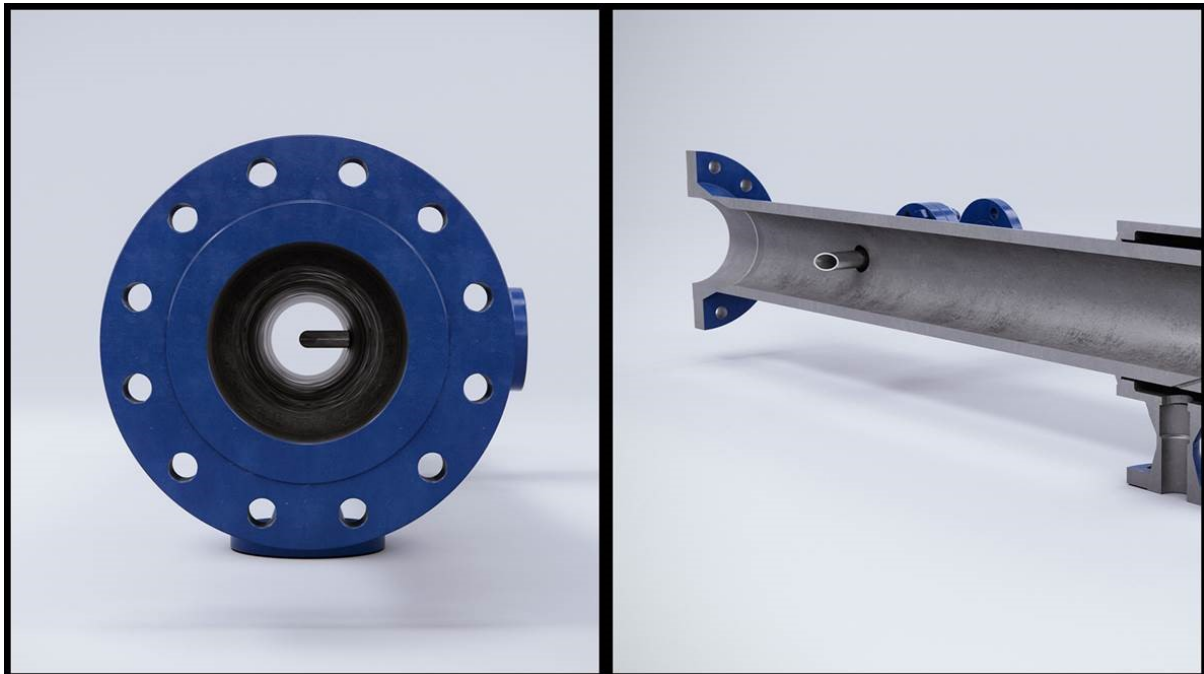

Figure A.1—Proper quill installation
- Bolt the JetLine quill to the downstream horizontal take-off flange (Fig. A.1), ensuring that the opening of the quill faces the direction of flow. A flow direction arrow is located on the external flange to aid installation.